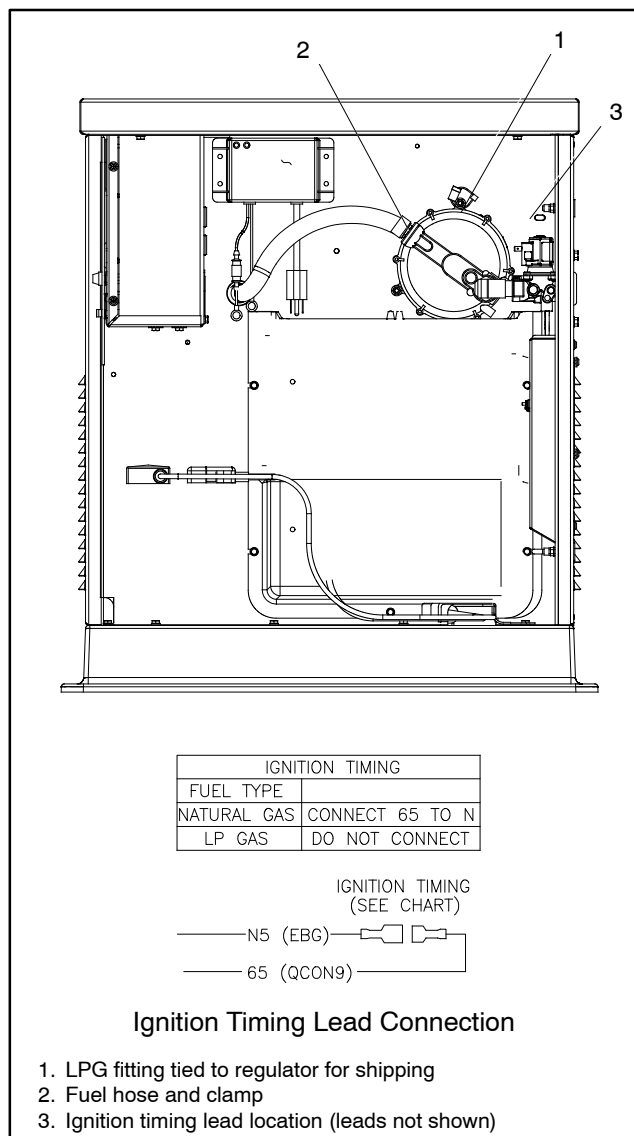

Figure 6-40 Fuel System, As Shipped
The unit is typically shipped set up for natural gas, with the LPG fitting tied to the fuel regulator. To convert to LPG, remove the NG fitting and install the LPG fitting as described below. See Figure 6-40 for the fuel system component locations.
5. Remove the hose clamp and fuel hose from the hose fitting. See Figure 6-40.
9. Disconnect ignition timing leads 65 and N5 for LPG. The ignition timing leads are located near the fuel solenoid valve. See Figure 6-40.